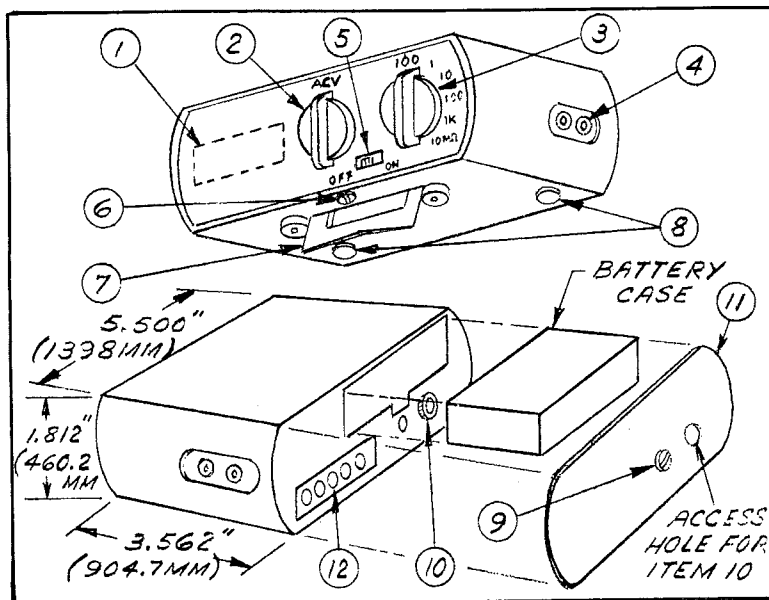

Fig. 2-1. Outline Dimensions & Features.
2.3 KEY POINTS ON YOUR MODEL 175 DMM (FIGURE 2-1)